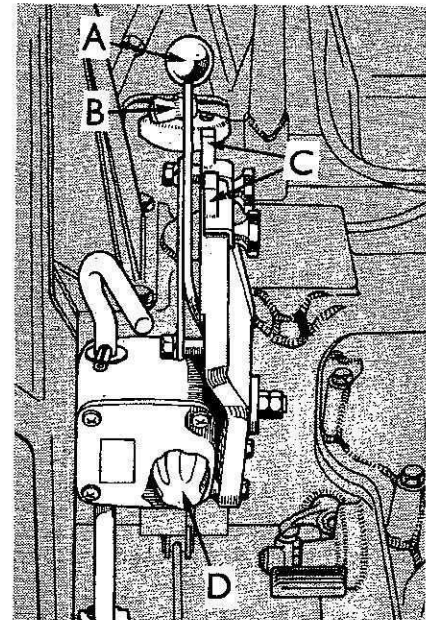

Fig. 168 — Drawing showing hydraulic system controls. Refer also to Fig. 169 and 170.
For explanation of system operation, refer to the following paragraphs 221 through 224. Schematic diagram of the system is shown in Fig. 167 and Figs. 168, 169 and 170 show views of the hydraulic system controls. NOTE: To move selector dial (B—Fig. 168) to different position, the control lever (A) must be held fully rearward against spring pressure.